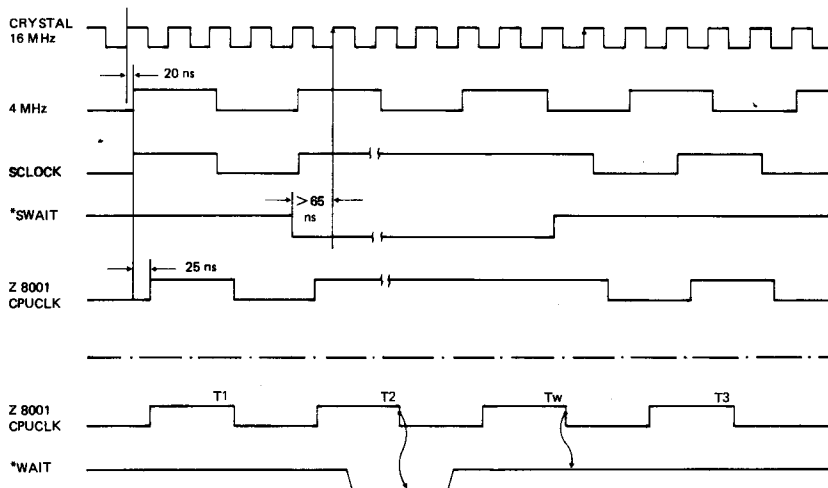
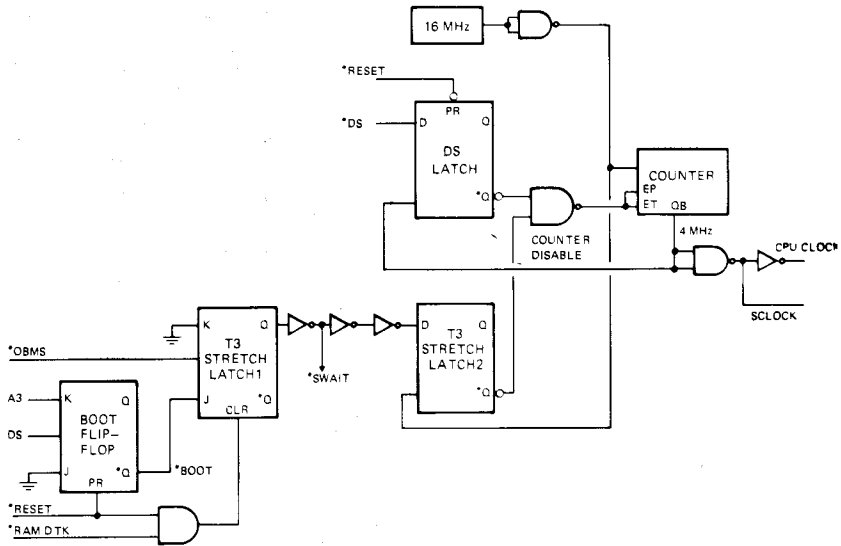

Fig. 2-18 T3 Pulse Stretch Timing
Fig. 2-19 Pulse Stretch Logic Diagram
**T3 Stretching** - Figure 2-18 shows the T3 'stretch' timing and Figure 2-19 shows a logic diagram of the T3 'stretch' circuitry.